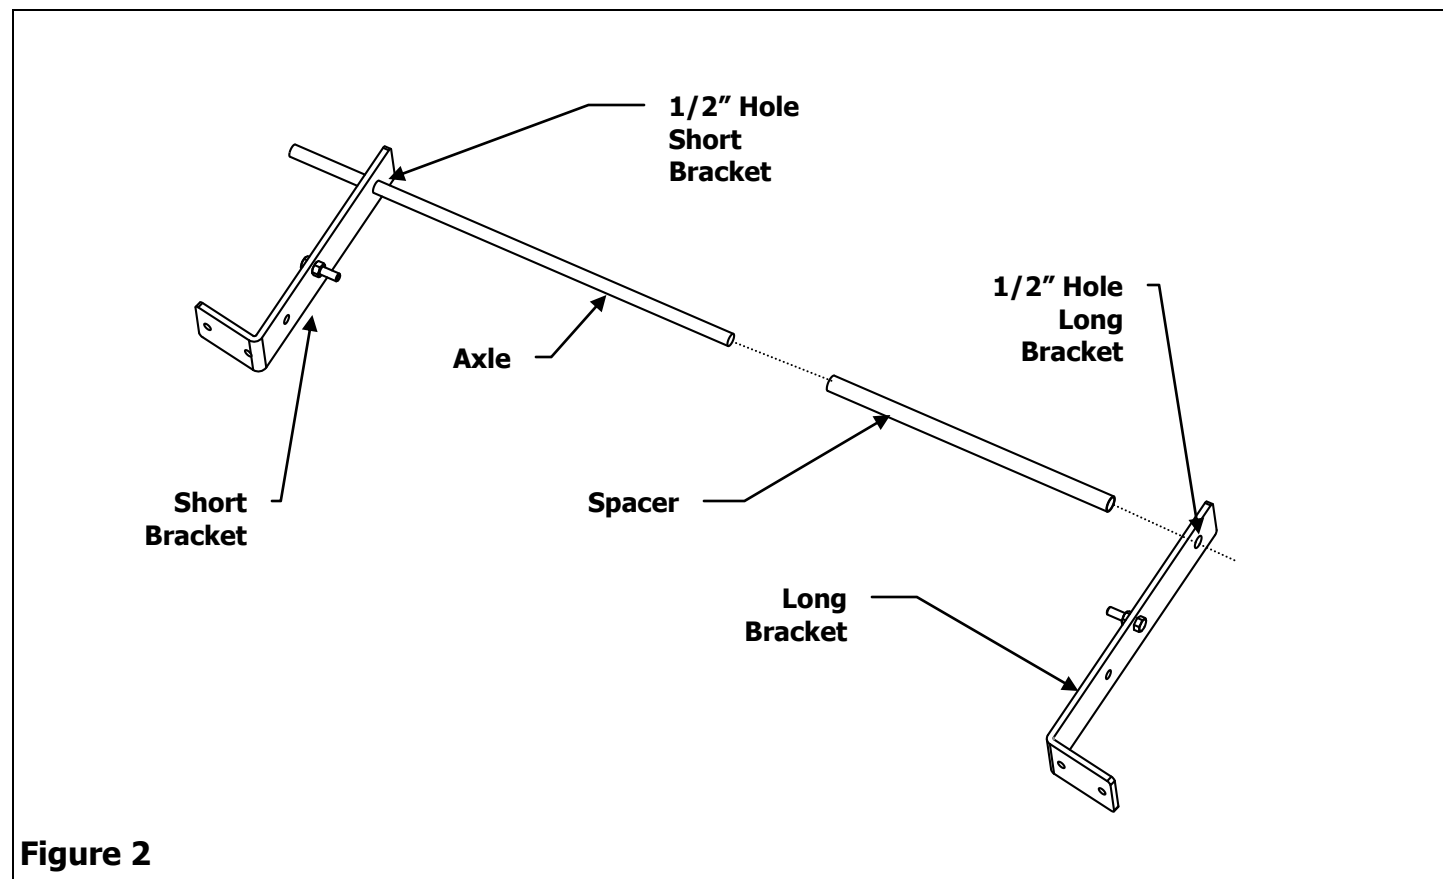

Figure 2
2. Insert the Axle into the 1/2" hole of the Short Bracket, then slide the Spacer onto the Axle. Insert the Axle into the 1/2" hole of the Long Bracket. Centering the Brackets and Spacer on the Axle. See Figure 2.